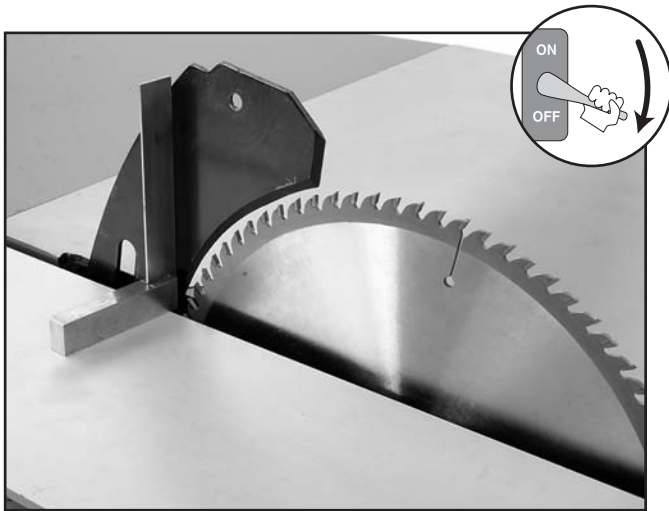

Figure 38. Checking vertical alignment.
- Place a machinist's square flat on the table and slide it against the riving knife as shown in **Figure 38**.